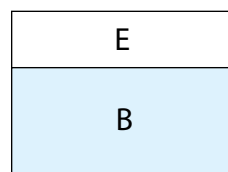

Fig. 6
5. Sew (1) DCE strip to the top and to the bottom of (1) CDC strip lengthwise to make (1) Unit 1 block. Pay attention to the orientation of the DCE strips. Repeat to make (20) Unit 1 blocks total.
6. Sew (1) $1\frac{1}{2}$ " x $4\frac{1}{2}$ " Fabric E strip to the top of (1) $2\frac{1}{2}$ " x $4\frac{1}{2}$ " Fabric B strip to make (1) Unit 2 strip (Fig. 6). Repeat to make (20) Unit 2 strips total.